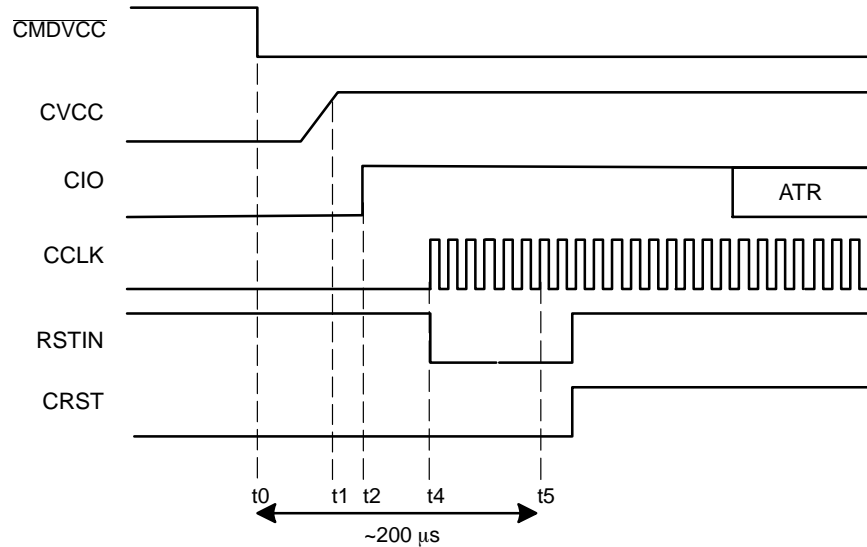

Figure 5. Activation Sequence – RSTIN Mode (RSTIN Starting High)
The clock can also be applied to the card using a **RSTIN mode** allowing controlling the clock starting by setting RSTIN Low (Figure 5). Before running the activation sequence, that is before setting Low \overline{CMDVCC} RSTIN is set High. The following sequence is applied:
- Between t₂ (Figure 5) and t₅ = 200 μs, RSTIN is reset to LOW and CCLK will start precisely at this moment allowing a precise count of clock cycles before toggling CRST Low to High for ATR (Answer To Reset) request.